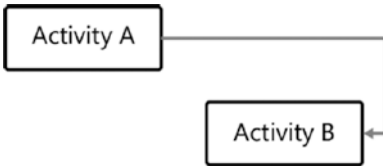

Figure 4-4. *Finish-to-finish relationship*
- *Finish-to-finish (FF)*: The successor activity cannot finish until the predecessor activity has finished. For example, you cannot finish writing the user manual for a piece of software until the testing is finished. Figure 4-4 depicts how this would be represented diagrammatically.